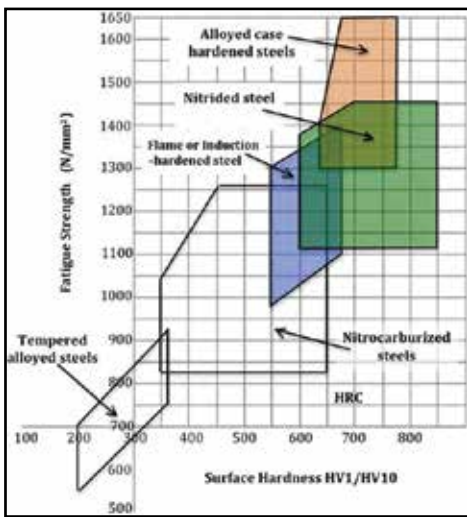

Figure 2: Load capacities of the three hardening methods: fatigue strength vs. hardness
- The load capacities of the three hardening methods can be compared using Figure 2 where fatigue strength is measured against hardness.